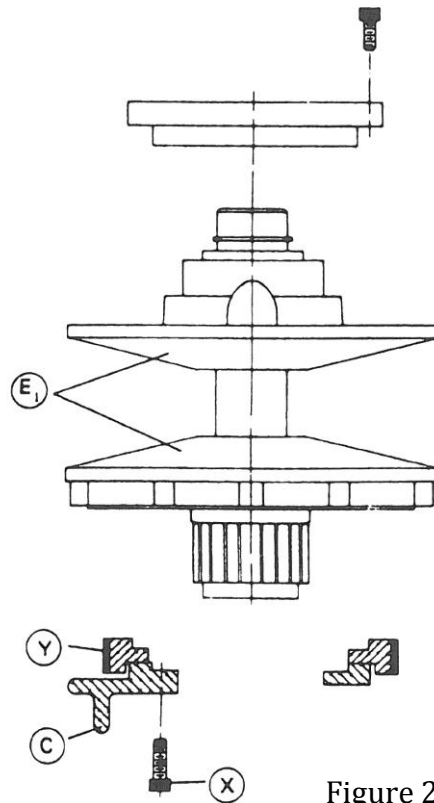

Figure 27
3. Brake Block Replacement (Fig. 27):
- c. Remove vari-disk assembly set “E1” (Fig. 27) by removing bolt “X”. Brake block “Y” can now be replaced.